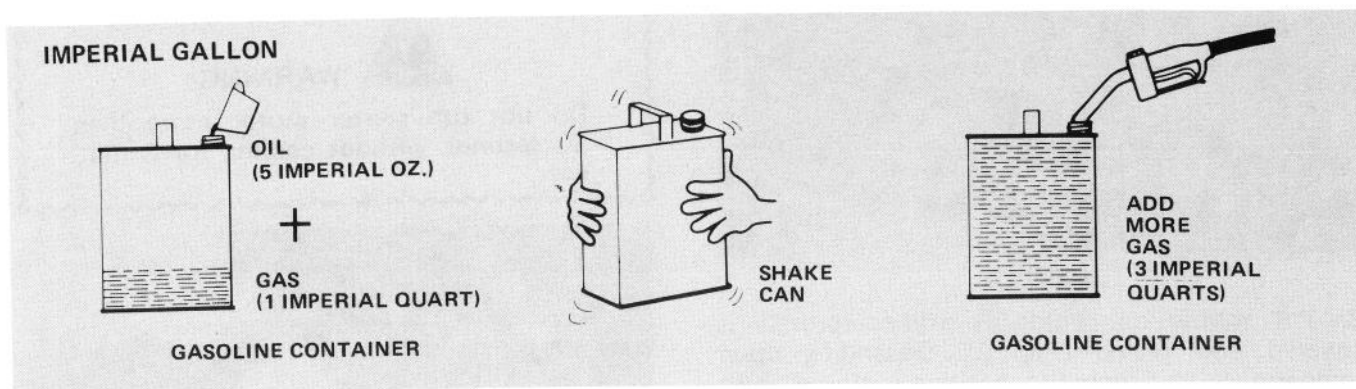

Figure 7B
1. Add 1 Imperial quart of leaded or unleaded **REGULAR** gasoline to a gasoline container (Fig. 7B).
2. Pour 5 Imperial oz. of two cycle engine oil into the gasoline container (Fig. 7B). **DO NOT** use multi-viscosity oils.
3. Shake the gasoline container vigorously so oil mixes with gasoline (Fig. 7B). Remember to install cap on gasoline container before shaking.
4. Add an additional 3 Imperial quarts of gasoline to the gasoline container (Fig. 7B).